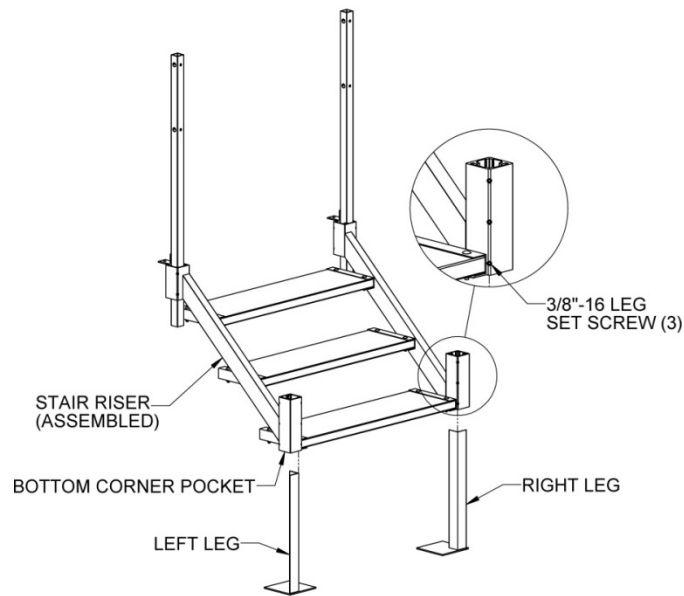

FIG. 5
- 3.2. Insert legs in bottom corner pockets so that the square base foot is oriented under the riser. Tighten one 3/8"-16 set screw on each bottom corner pocket (FIG. 5). NOTE: Legs are supplied in pairs; left and right.